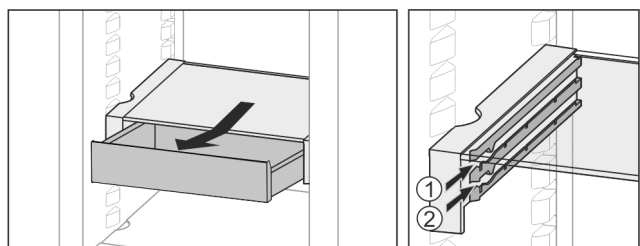

Fig. 24
- ▶ Slide in at any height Fig. 24 (1) or Fig. 24 (2).